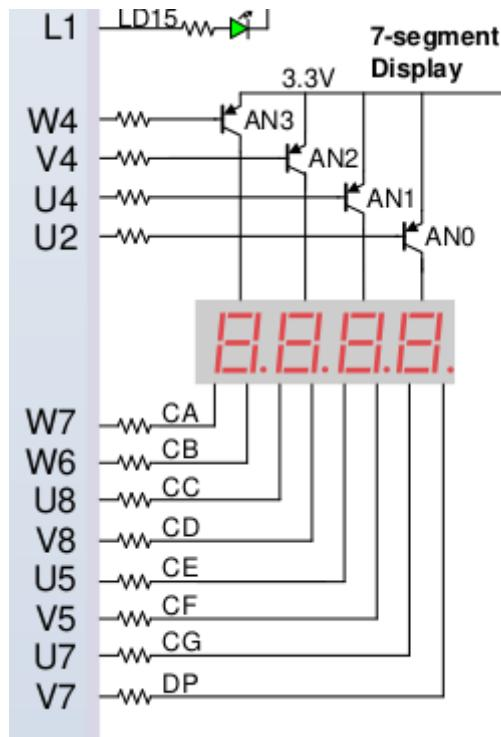

Figure 2 : 7-Segment Display Pin
To illuminate each segment, the corresponding anode (AN) must be set to 0. As shown in Figure 2, each anode is connected to a transistor, and setting the corresponding cathode (CX) to 0 allows current to flow from the anode to the cathode, thereby turning on the segment.